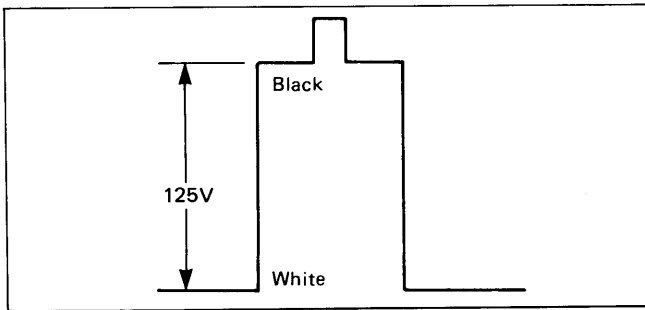

Fig. 46
- 6) Adjust G-Drive control VR (R396) to achieve 125Vb-w as shown in Fig. 46.